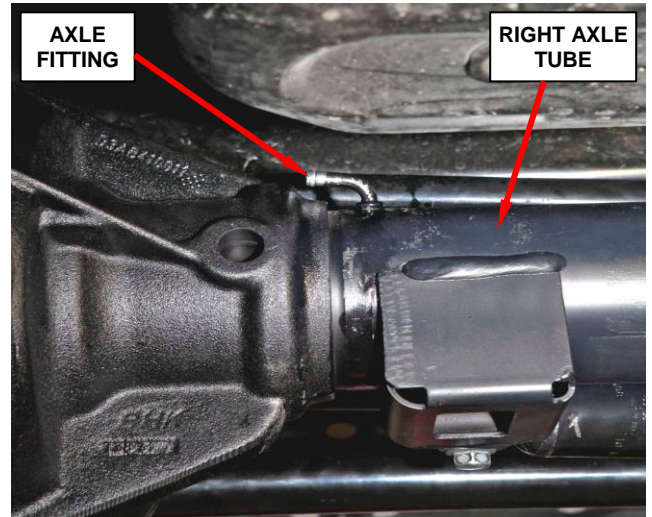

Figure 6 – Rotate Axle Vent Tube Fitting
1. Remove the axle vent hose from the axle fitting (Figure 6).
2. Rotate the axle fitting so that the vent opening is parallel to the axle (vent fitting opening towards the driver’s side) (Figure 6).